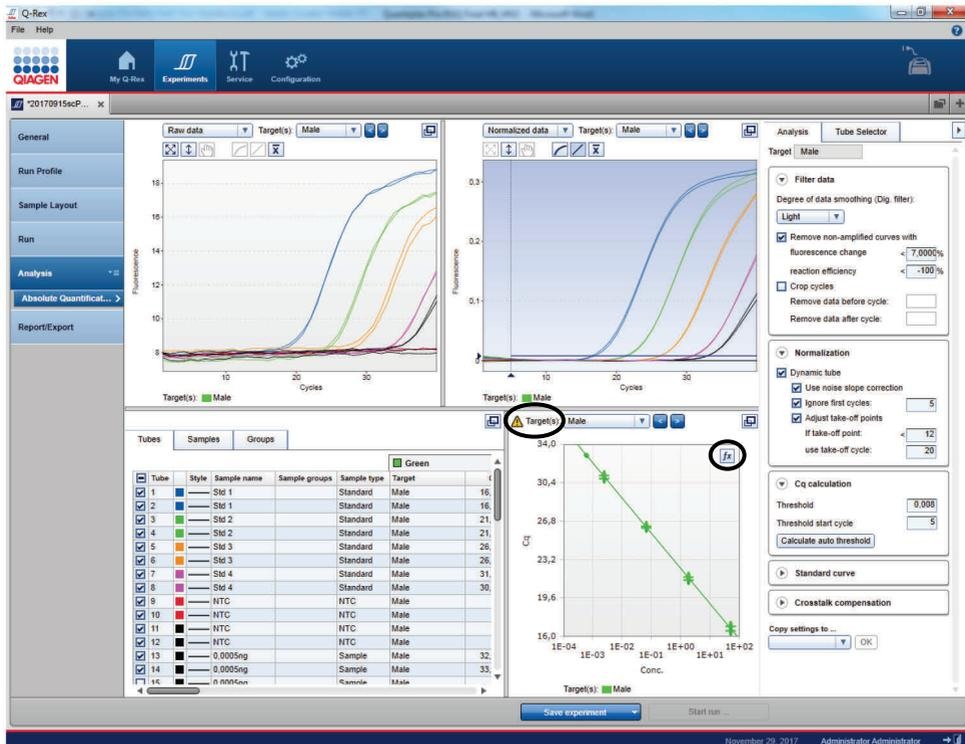

Figure 32. Standard curves in Q-Rex.
15. The Standard Curves are shown in the "Targets" windows. Select one or multiple targets. View the calculated regression line, slope (M), y-intercept (B), R^2 and efficiency values by clicking on the fx-symbol (Figure 32).